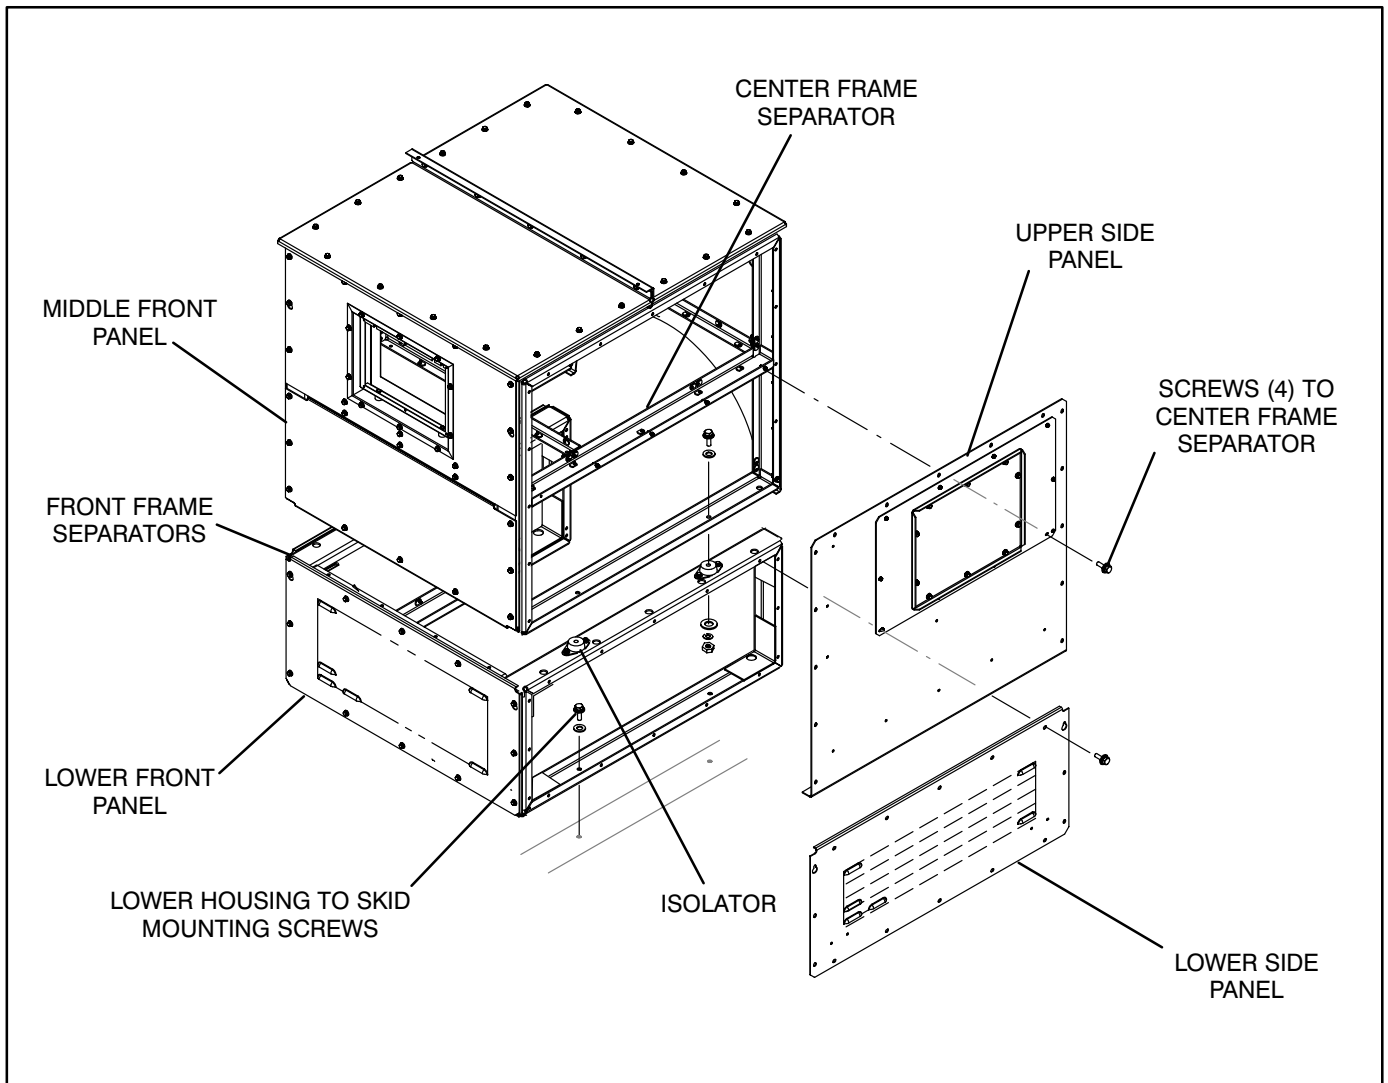

FIGURE 4-7. REMOVING FRAME 7 CONTROL HOUSING
2. Remove the control housing lower and middle front panels (see Figure 4-7).